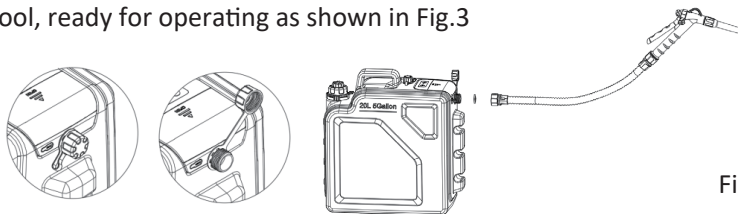

Fig.3
2. Open the outlet cap, connect the tank station and nozzle by hands or tool, ready for operating as shown in Fig.3